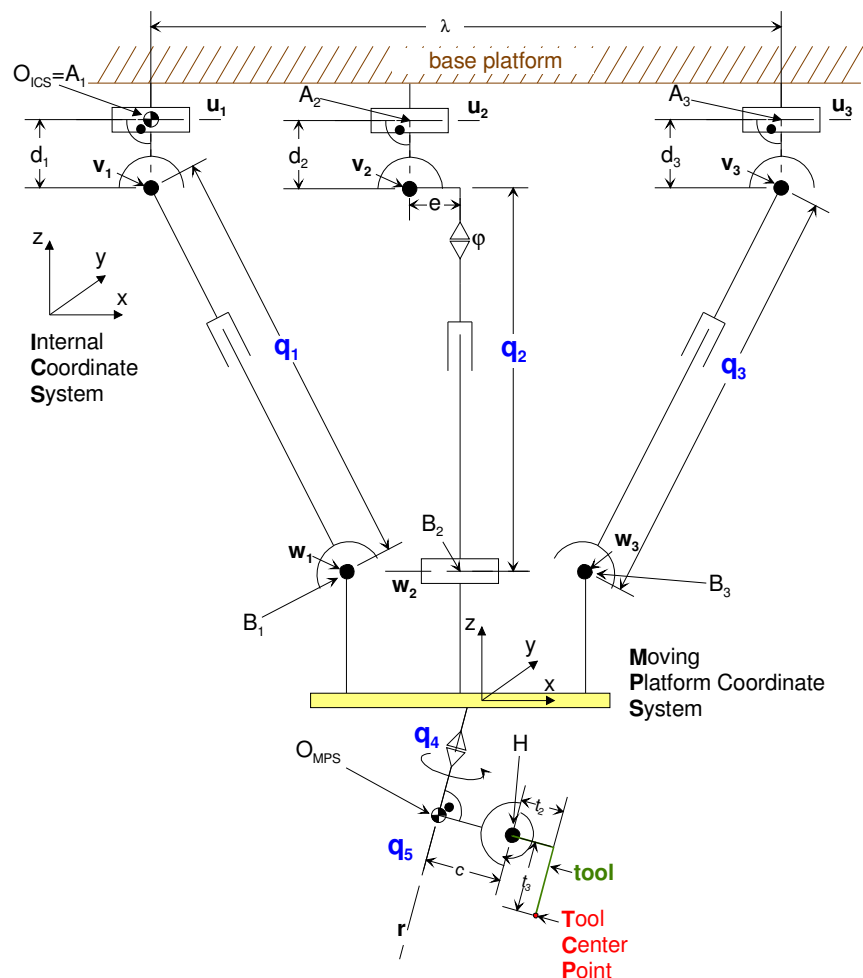

Figure 1: Equivalent kinematic diagram of the kinematics module in XZ plane
- Primary axes refer to the driven axes 1 to 5, noted as  $q_1$ - $q_5$  in Figure 1.